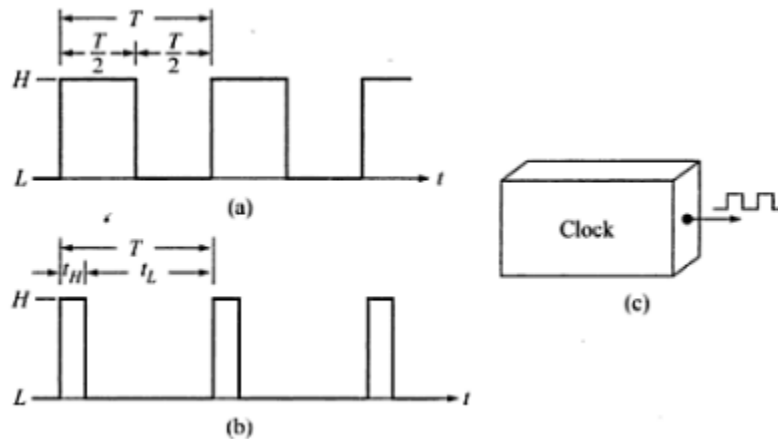

Figure 1.6: (a) Symmetrical signal with period T (b) Asymmetrical signal with period T (c) System clock.
- Period(T) is the time over which the signal repeats itself (Figure: 1.6).
- ratio of low level time to the period (Figure: 1.6).